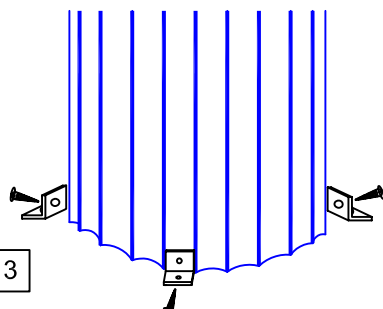

Fig. 3
Step 3. Locate L-shaped brackets around column at top and bottom and secure with screws (Fig. 3).